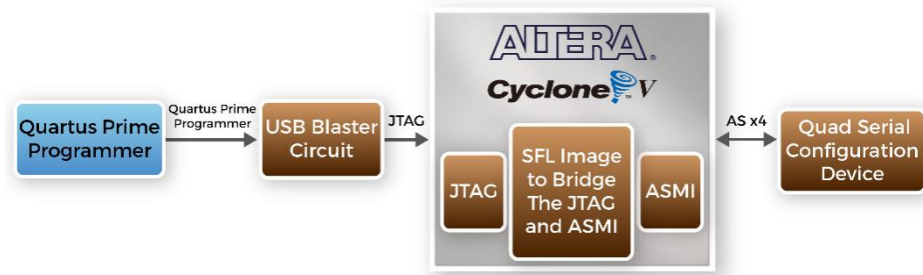

Figure 3-8 Programming a quad serial configuration device with SFL solution
- The FPGA-based SFL is a soft intellectual property (IP) core within the FPGA that bridges the JTAG and Flash interfaces. The SFL Megafunction is available in Quartus Prime. **Figure 3-8** shows the programming method when adopting SFL solution.